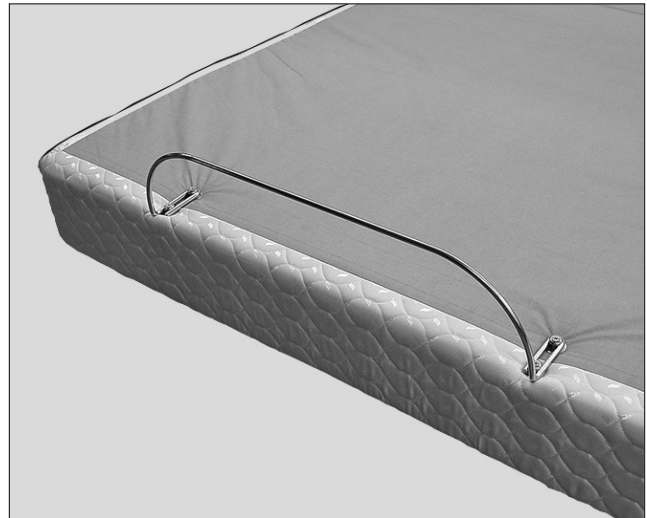

FIGURE 6: Typical mattress retainer installed.
d. Tighten screws to complete mattress retainer installation (FIGURE 6).